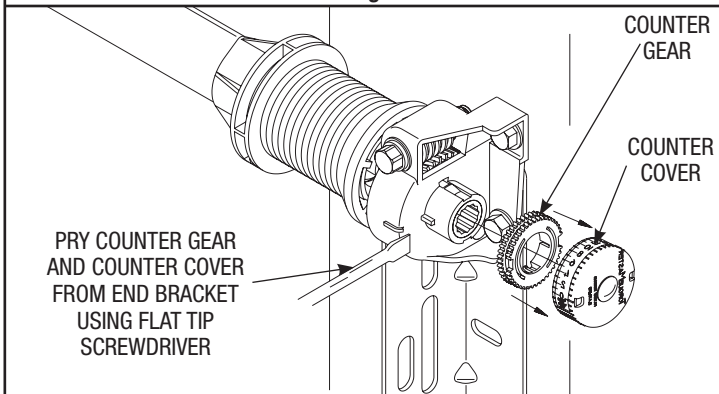

Fig. 4
Step 4: Using a flat tip screwdriver, pry the counter gear and counter cover from the right hand end bracket (Fig. 4 on previous page). Discard the counter gear and counter cover. On double spring applications, repeat for left hand side.